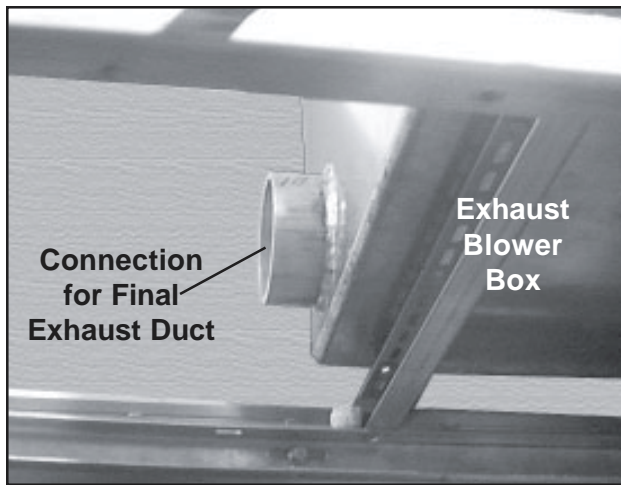

Figure 94. Final Exhaust Duct Connection
8. Loosen the two hose clamps on the final exhaust flexible duct (Figure 94), and disconnect the duct from the intake blower box and the building air handling exhaust system outlet.